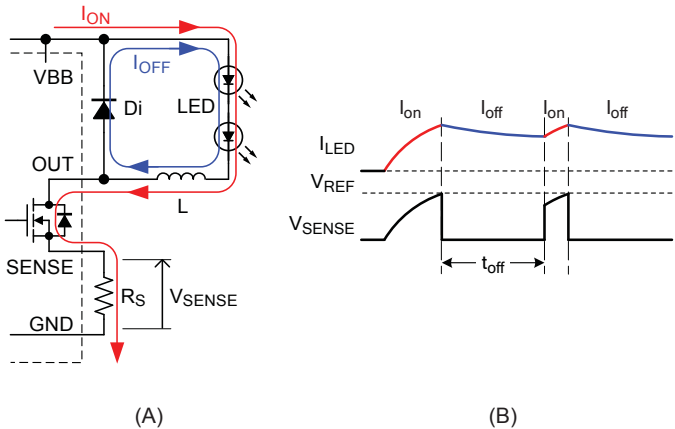

Figure 3. Output current control circuit
PWM current control works as shown in figure 3.
- **PWM On Period.** During MOSFET on-time, the current runs through the I_{ON} path (shown in red in figure 3, panel A).